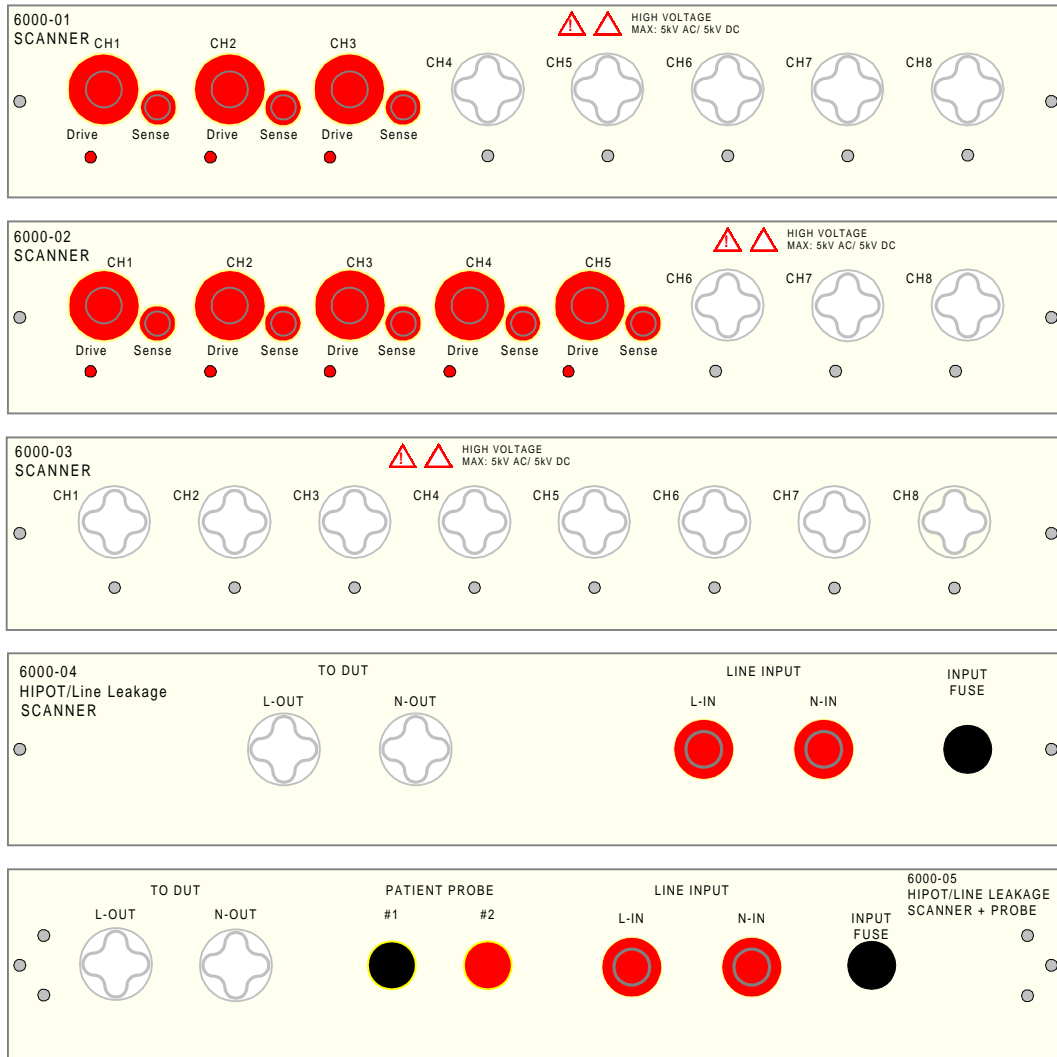

Figure 1: Internal Scanner Options for Guardian 6000 Series
Figure 1 illustrates the four INTERNAL Scanner options (P/N 6000-01, -02, -03, & -04) available for the Guardian 6000 Series instrument and the 6000-05 for the Guardian 6100. The 6000-01 has 3 Ground Continuity (GC) and 5 High Voltage (HV) channels. The 6000-02 has 5 GC and 3 HV channels. The 6000-03 has 8 HV channels. The 6000-04 Line Leakage Scanner has 2 HV and 2 Line channels. The 6000-05 has 2 HV, 2 Patient Probe and 2 Line channels. The Guardian 6000 instrument looks for an internal scanner as its 1st scanner and external scanner(s) as scanners #2-8. Up to 8 scanners can be connected in parallel for Hipot testing, up to 4 scanners for Ground Continuity testing.